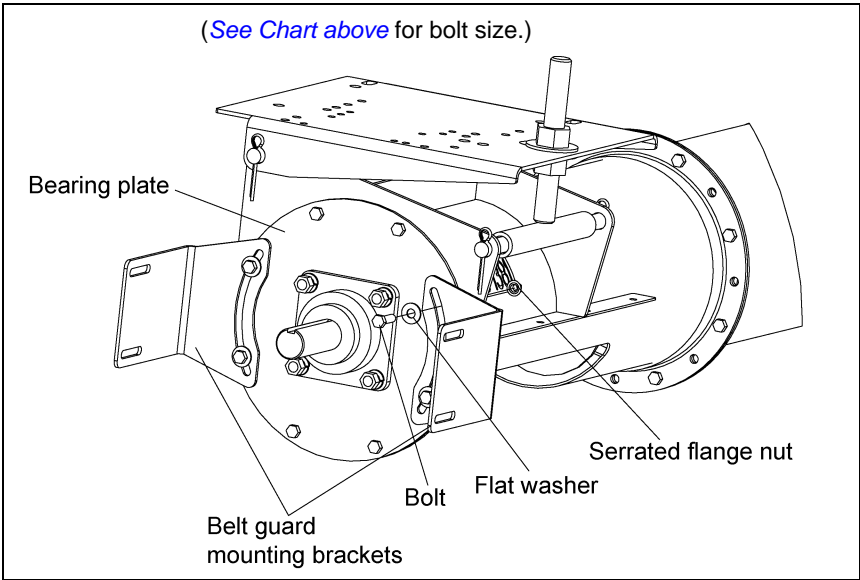

Figure 4M
- B. Secure the brackets with proper bolts, flat washers, and serrated flange nuts. (See Chart below and See Figure 4M.)